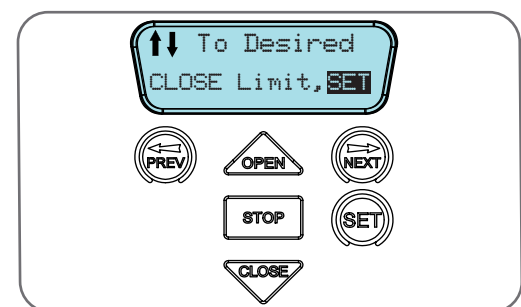

Fig 8.3
- Turn on the power to the opener. The controller will go through a start up sequence. After a short delay the MAIN SCREEN (Fig. 8.3) will be displayed. If this is the first time the GDO-10V3L2 is being used, the MAIN SCREEN should enter into limit set mode and the blue close LED will be flashing. If the display shows that an input is active, then rectify the situation before continuing with the procedure for setting the travel limits. Press and hold the CLOSE button - the door should start closing.